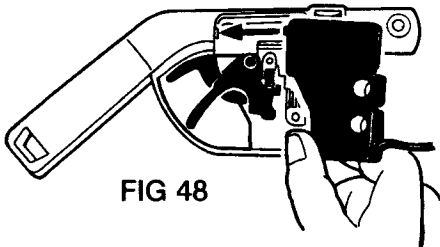

FIG 48
5. Hold trigger in place with finger until throttle cover #44069 is fitted (Fig 48). It is then ready for screwing tight (with 2 screws (A) as shown in Fig 38). Ensure throttle cover rear lug (arrowed Fig. 48) engages underside of handle wall.